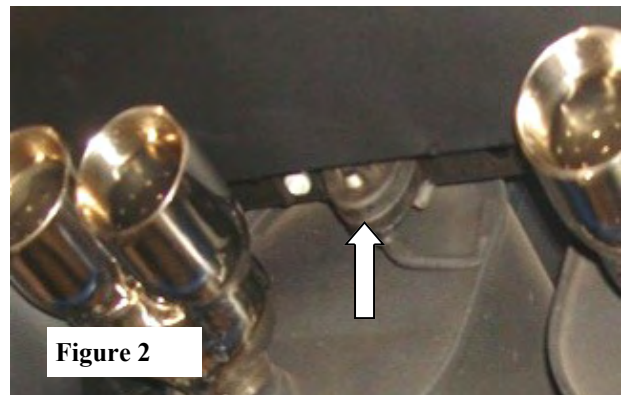

Figure 2
2. Carefully remove the rear mufflers from the rubber isolators. (See Fig. 2)